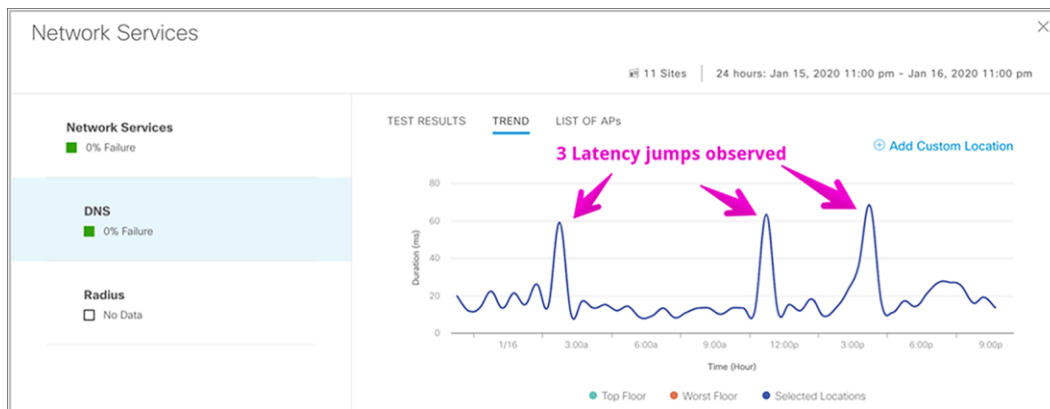

Figure 96.
- Click the DNS heatmap under the Network Services category to switch to a drilled-down view (**Figure 96**).
- Observation:** In **Figure 96**, the DNS drill-down test result provides insight into the times at which DNS response times spiked in the past 24 hours.